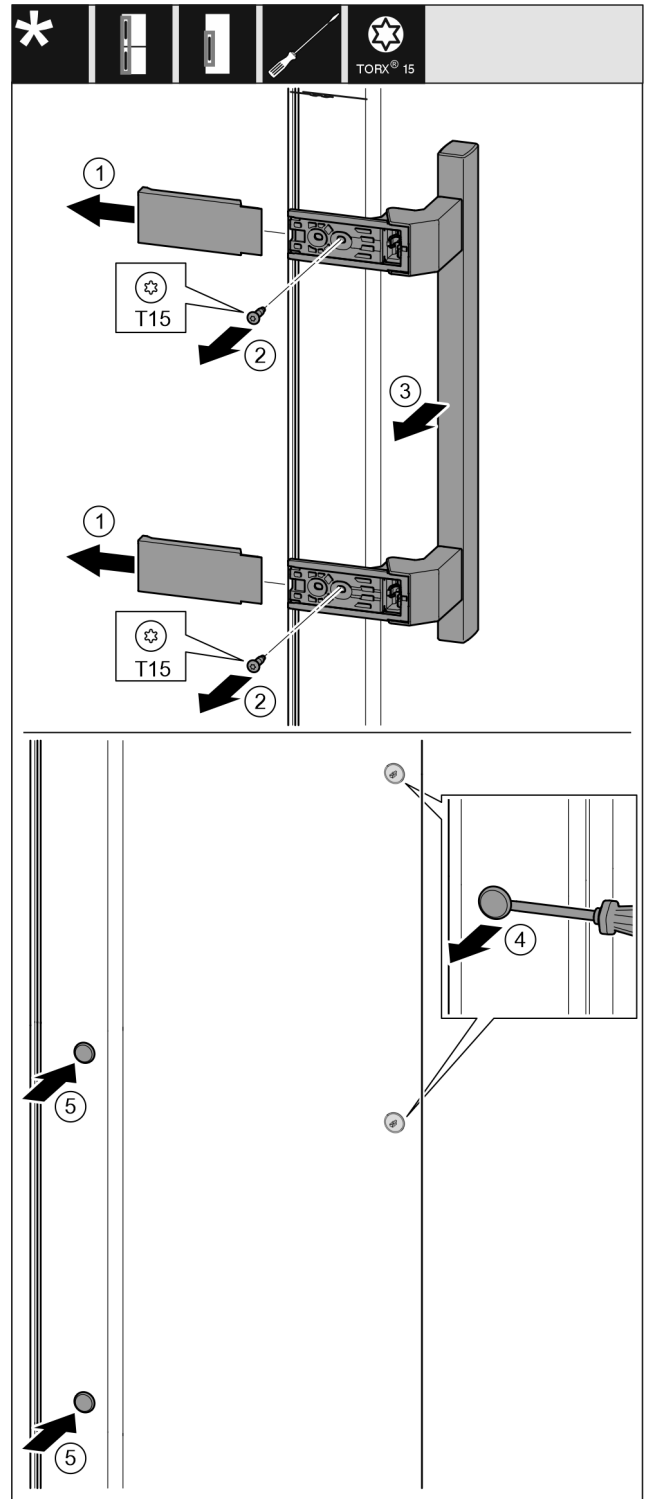

Fig. 16
- ▶ Pull off the cover. Fig. 16 (1)
- ▶ Remove the screws with a T15 screwdriver. Fig. 16 (2)
- ▶ Take off the handle. Fig. 16 (3)
- ▶ Carefully lift up the side plugs with a slotted screwdriver and pull them out. Fig. 16 (4)
- ▶ Insert the plugs again on the other side. Fig. 16 (5)